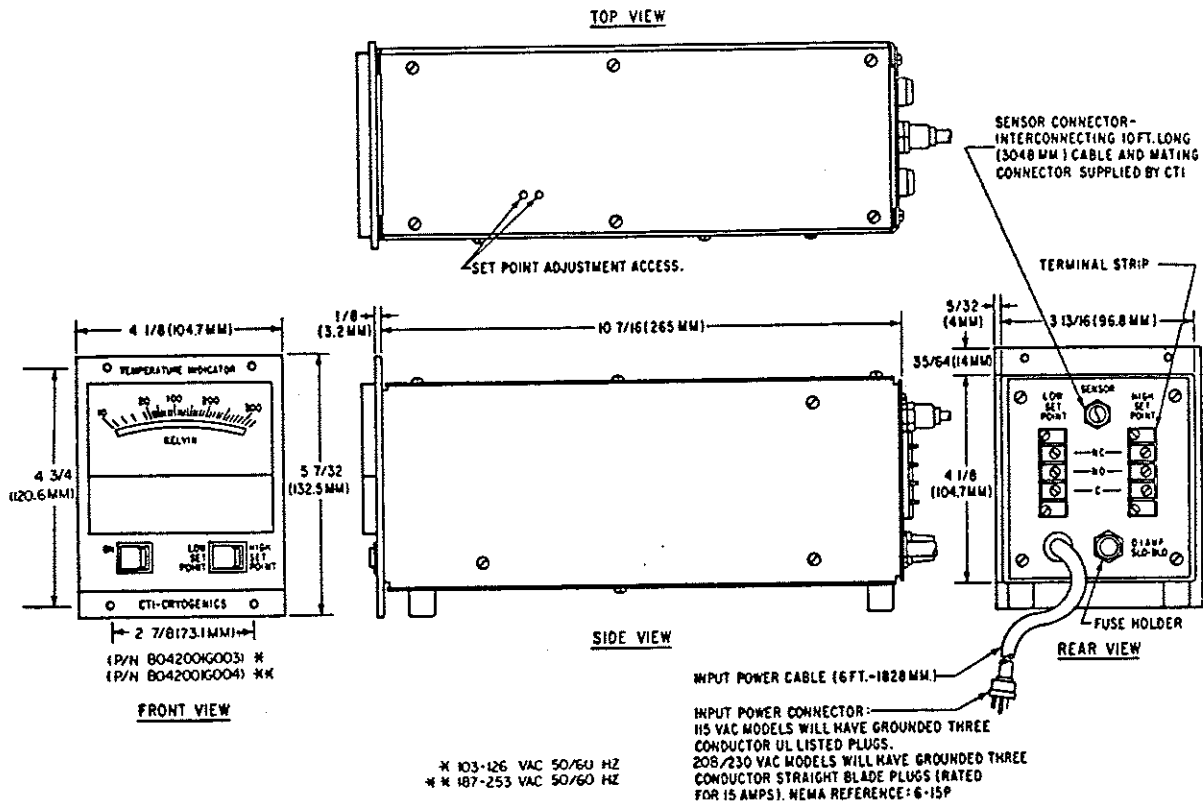

FIGURE 1. CRYO-TORR™ TEMPERATURE INDICATOR
The Cryo-Torr™ Vacuum-Pump Temperature Indicator, Part No. 8042001G003, or G004 shown in Figure 1, is used with Cryo-Torr(R) high-vacuum pumps, to monitor cryopump operating temperatures. With User-supplied switch gear, the indicator can be used in multiple installations. In cryopumps provided with a silicon diode sensor, the indicator is easily connected to the cryopump with an electrical cable. The panel readout is in Kelvin, and has a range from 10K to 320K. The indicator has two set points that are adjustable over this range. When the vacuum pump temperature reaches either set point, electrical contacts on the rear terminal board can be used to activate indicators or operate solenoid valves for controlling temperature-related functions. A switch on the front panel permits momentary display of the two set points.